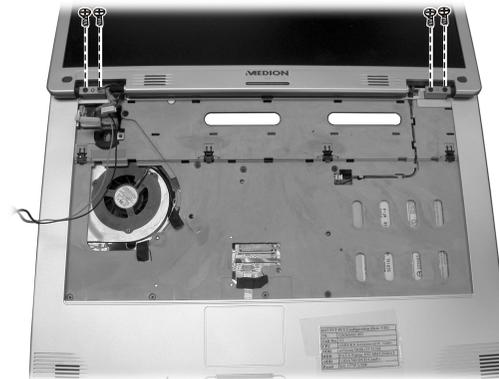

Figure 2-17 Free the LCD assembly
6. Remove the four screws and free the LCD assembly. (Figure 2-17)